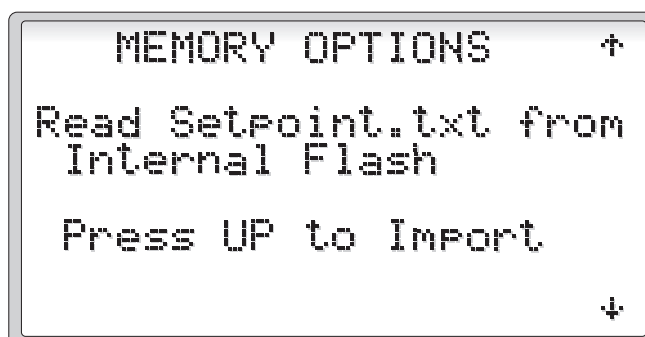

Figure 66
2.3.3.9 Memory Options (Figures 66 and 67)